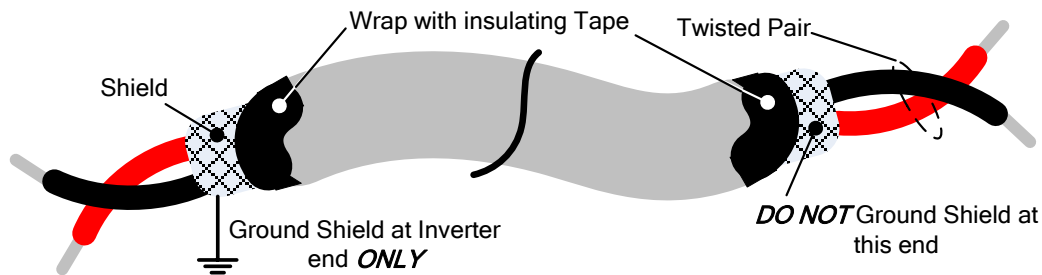

Fig. 3.17.1 Shielded Twisted-Pair
- (1) Separate the wiring for control circuit terminals from main circuit wiring for terminals (R/L1, S/L2, T/L3, U/T1, V/T2, W/T3).
- (2) Separate the wiring for control circuit terminals R1A-R1B-R1C (or R2A, R2C) (Relay outputs) from wiring for terminals ① - ⑧, A01, A02, GND, DO1, DO2, DOG, +12V, (-12V), AI1, AI2 and GND wiring.
- (3) Use shielded twisted-pair cables (#24 - #14 AWG / 0.5 -2 mm²) shown in Fig. 3.17.1 for control circuits to minimize noise problems. The maximum wiring distance should not exceed 50m (165 ft).